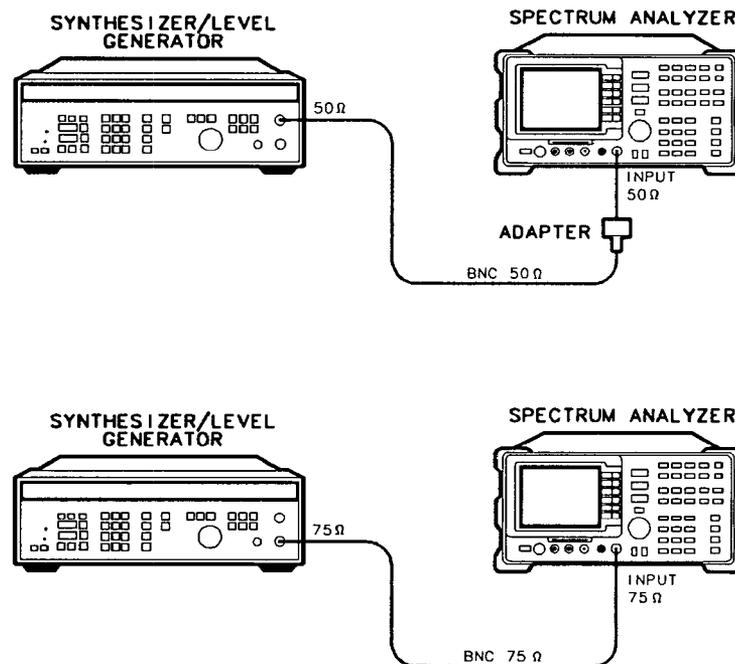

Figure 2-28. Frequency Response for 4 MHz Setup
17. Using a cable, connect the HP 3335A directly to the INPUT 50 Ω . See Figure 2-28.
(*Option 001:* Using a 75 Ω cable, connect the HP 3335A from the 75 Ω OUTPUT to the INPUT 75 Ω . Set the HP 3335A 50–75 Ω switch to the 75 Ω position. See Figure 2-28.)